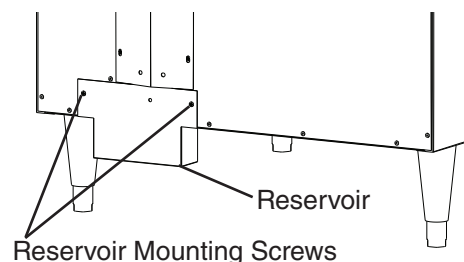

Fig. 8
- 8) Using 2 screws provided in the accessory bag, attach the reservoir to the rear of the unit. See Fig. 8.